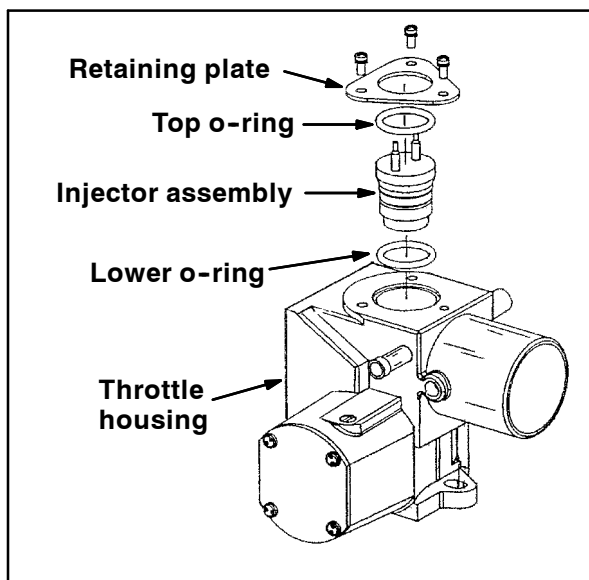

FIG. 2
5. Remove the retaining plate, injector assembly, and o-rings from the throttle housing. Refer to Fig. 2.
10. Seat the lower smaller o-ring back inside the throttle housing. Refer to Fig. 2.
11. Insert the injector assembly and the top o-ring back into the throttle housing. Refer to Fig. 2.
12. Reinstall the retaining plate onto the throttle housing. Refer to Fig. 2.
13. Seat the lower smaller o-ring back inside the throttle housing. Refer to Fig. 2.
14. Insert the injector assembly and the top o-ring back into the throttle housing. Refer to Fig. 2.
15. Reinstall the retaining plate onto the throttle housing. Refer to Fig. 2.